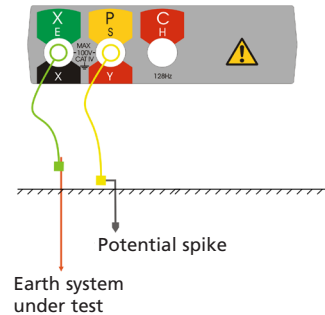

Figure 13: Connections for measuring ground noise voltage and two-terminal resistance
1. With the selector switch set to the 'OFF' position, connect the instrument as shown in Figure 13.
1. With the selector switch in the 'OFF' position, connect the instrument as shown in Figure 13, but connected to the part of the installation you are testing.